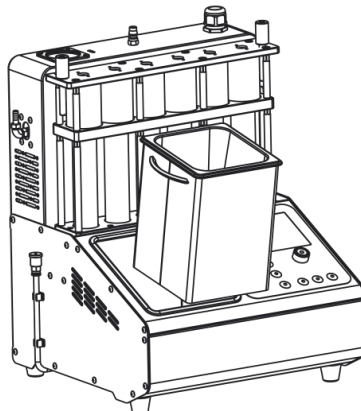

Figure 4.2
- Pouring out all cleaning solution from the ultrasonic cleaning pool completely shown in Figure 4.2, and wipe the ultrasonic cleaning unit with a soft dry cloth.